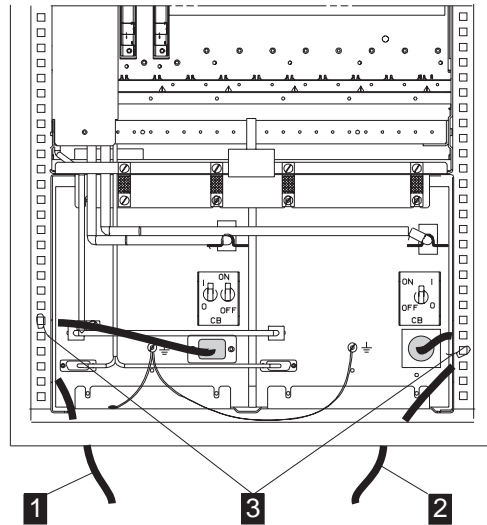

Figure 4-8. Power Cable Routing
3. \_\_\_\_ Route the power cable **1** to the customer's power socket, and insert the power plug into the customer's main socket (see Figure 4-8 on page 4-9).